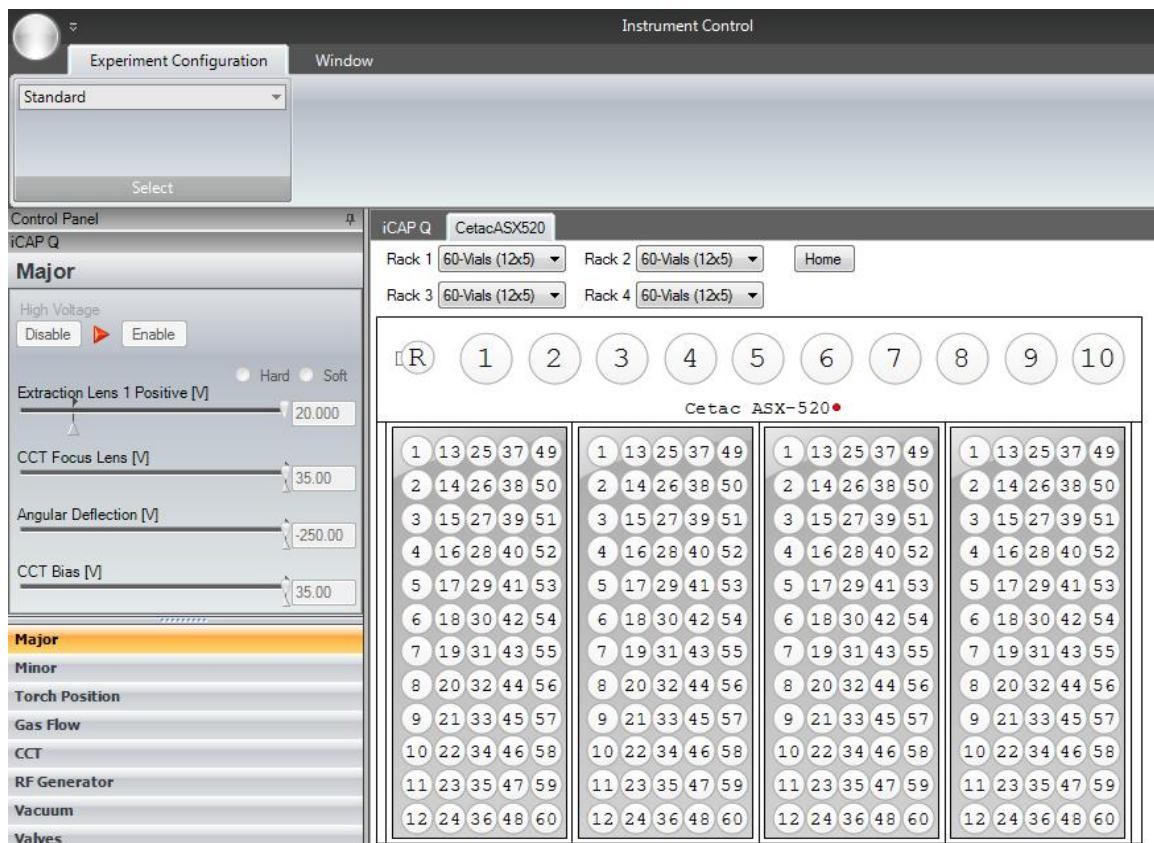

Figure 39: Autosampler control.
- 15) Using Qtegra, open the **Instrument Control** software and select your new **Experiment Configuration** from the drop down list. Next, select the **CetacASX520** hardware tab. Here you can verify the configuration by manually moving to positions, by simply clicking on the vial you desire. See Figure 39.